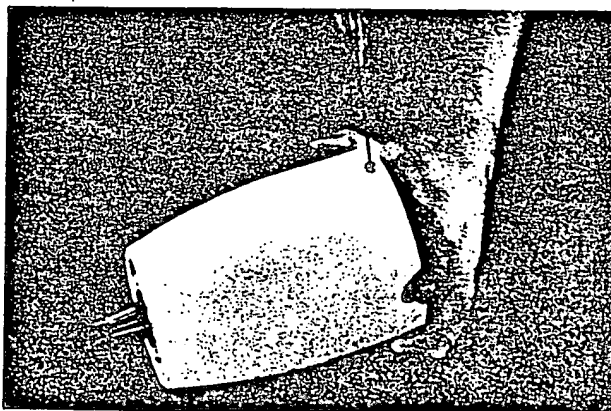

Figure 14
2. Remove shroud by removing the three latch button assemblies with a 1/16" allen screwdriver. Shroud can then be pulled forward. See Figure 14.